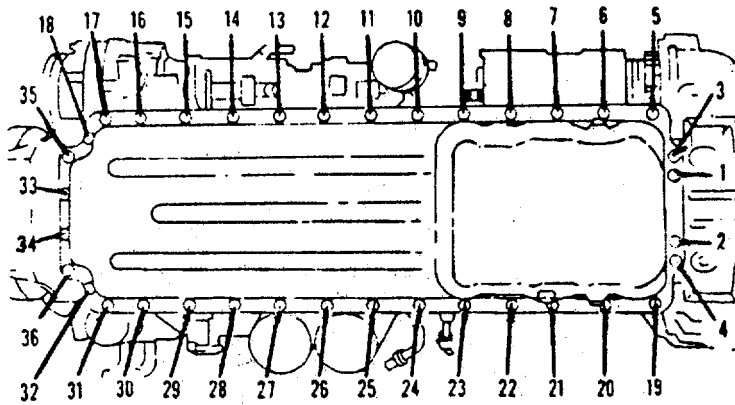

FIGURE 3-78. *Oil Pan Torque Sequence.*
- (16) Tighten one of the 7/16-inch oil pan mounting capscrews on each side of the oil pan, halfway between the front and the rear of the oil pan, to 15 ft-lb (20 N•m) torque.
- (17) Tighten the four 5/16-inch capscrews in the rear of the oil pan to 20 ft-lb (25 N•m) torque in the sequence shown in (Figure 3-78).
- (18) Tighten the thirty-two (32) 7/16-inch capscrews to 50 ft-lb (70 N•m) torque in the sequence shown in (Figure 3-78).